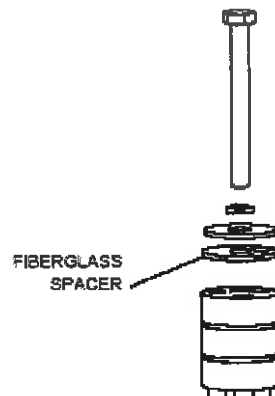

Fig. 12
39. If you used method #2 to replace the circuit, push the slip ring assembly back into its proper position on the yaw shaft while keeping the brushes depressed in their slots behind the assembly. A small pick can assist with this. Make sure the plastic insulating tube remains in the center of the slip ring assembly and that none of the wires get pinched between the slip rings - failure to do so may result in a short and malfunction. Replace the bolt with washers back into the top of the slip ring assembly making sure the fiberglass spacer is in contact with the top slip ring. Tighten bolt to approximately 75-80 in-lbs. See Fig. 12